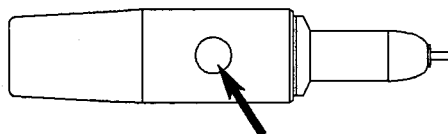

Figure 3-7. 10:1 / 100:1 Divider Adjustment Component Location
7. Adjust the trimmer component from the opening of the divider, shown in Figure 3-7, so that the data measured by the instrument is approximately 20 dB less than data R.